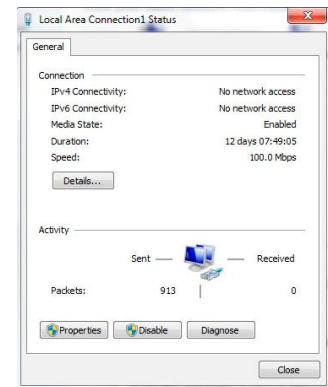

Figure 3-11 Select Properties
- c. Select **Properties** button from the Ethernet-Furnace Status window, Figure 3-11.